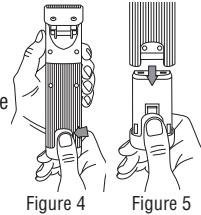

Figure 4 Figure 5
3. Fit the charged battery in the clipper, until the battery interlock is engaged (Figures 4 and 5).